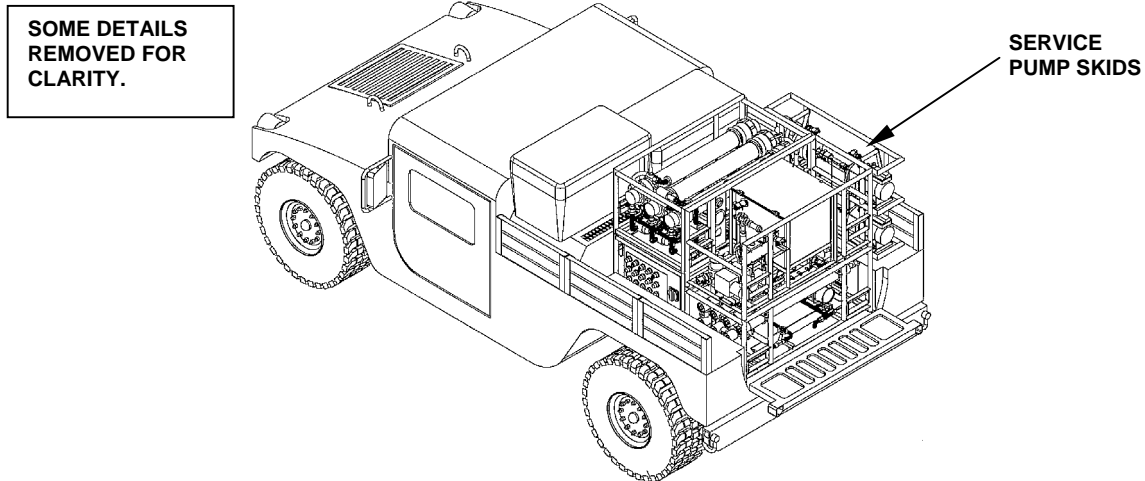

Figure 14. Loading Service Pumps Skid.
23. Load the upper and lower service pump module skids on the right wheel well of the HMMWV. Load the upper and lower skids independently of each other. Insert lock pins into appropriate holes in skid frames. Secure skids together with lock pins. See Figure 14.